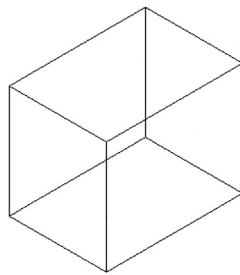

FIGURE 20.7
Step 9. And the final result, after a few more lines, is seen in Figure 20.7.